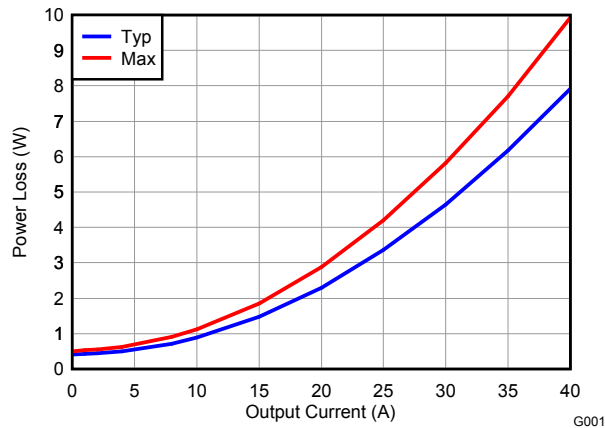
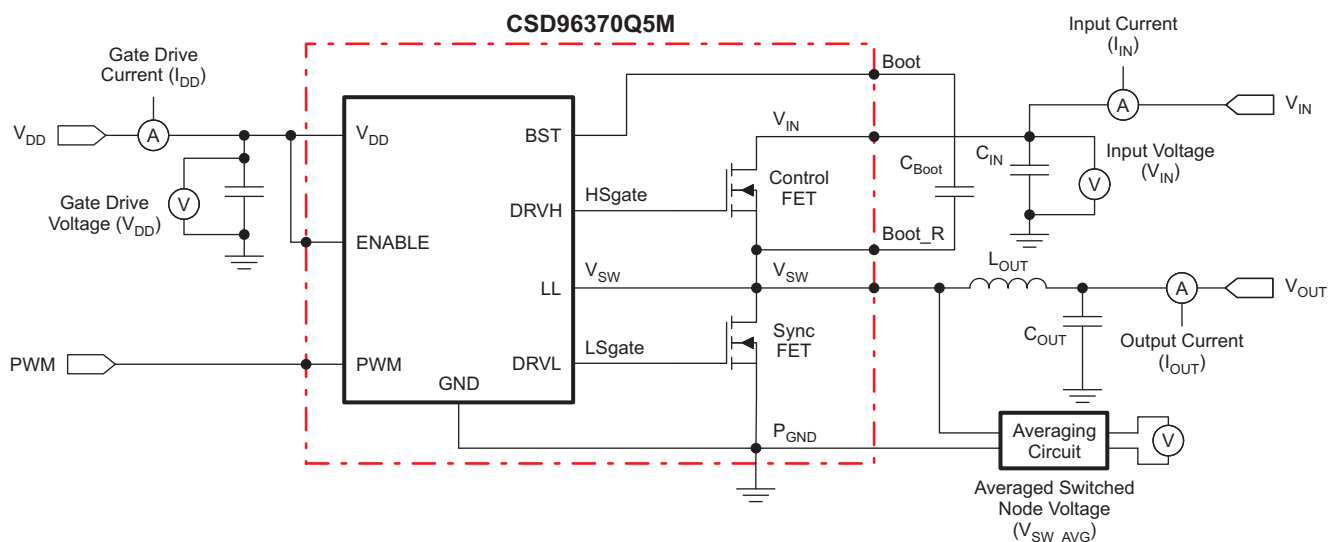

Figure 7. Power Loss vs Output Current
Figure 18. Power Loss Test Circuit
MOSFET centric parameters such as $R_{DS(ON)}$ and Q_{gd} are primarily needed by engineers to estimate the loss generated by the devices. In an effort to simplify the design process for engineers, Texas Instruments has provided measured power loss performance curves. Figure 7 plots the power loss of the CSD96370Q5M as a function of load current. This curve is measured by configuring and running the CSD96370Q5M as it would be in the final application (see Figure 18). The measured power loss is the CSD96370Q5M device power loss which consists of both input conversion loss and gate drive loss. Equation 1 is used to generate the power loss curve.
The power loss curve in Figure 7 is measured at the maximum recommended junction temperature of $T_J = 125^\circ\text{C}$ under isothermal test conditions.
- Power Loss at 25A = 3.3W (Figure 7)